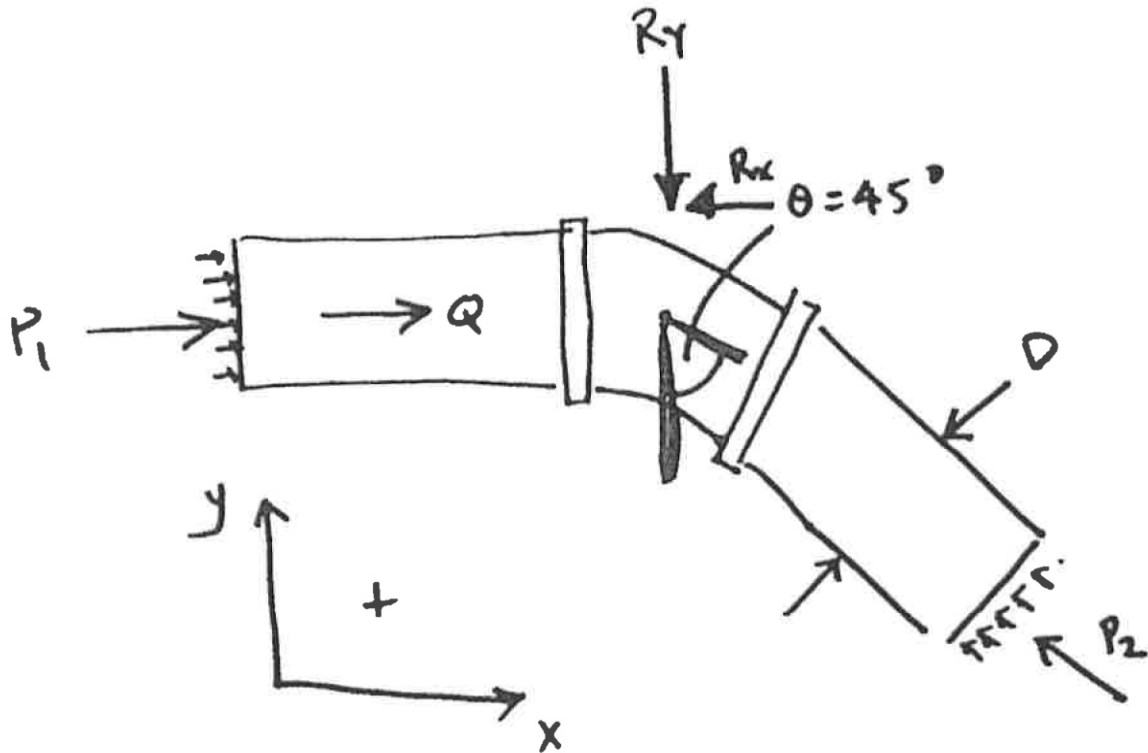

Figure 2. Pipe with 45 degree elbow.
4. A pressurized pipe with diameter of $D = 153 \text{ mm}$ has a 45° elbow (Figure 2). The steady-state flow in the pipe is $Q = 200 \text{ L/s}$ and the upstream pressure $P_1 = 500 \text{ kPa}$. The reaction forces at the elbow are equal to $R_x = 6 \text{ kN}$ and $R_y = 2 \text{ kN}$.